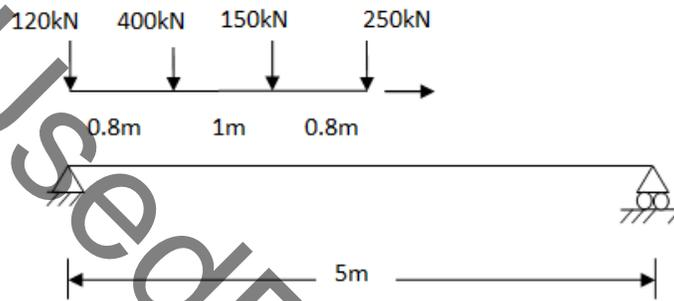

Figure: 6
8. For the simply supported beam AB of span 5m subjected to a train of concentrated loads moving from left to right as shown in Figure 6. Using influence lines find the absolute maximum bending moment and the equivalent uniformly distributed load. [15]